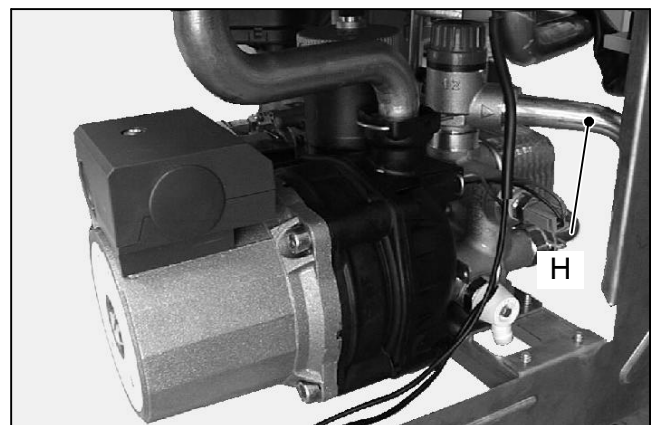

fig. 6.4
- 8 Connect the pipe H (fig. 6.4) from the pressure relief valve to the safety discharge pipework.